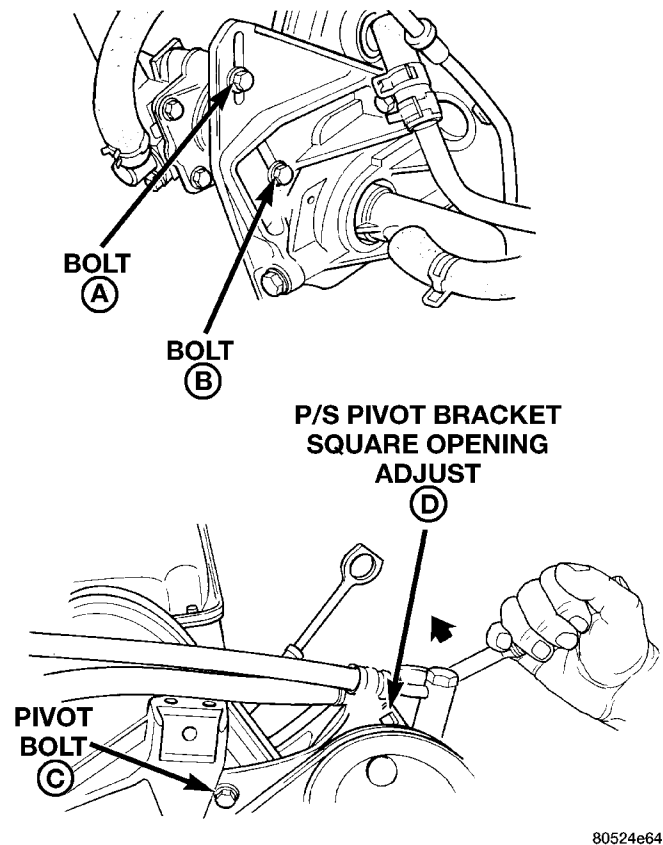

Fig. 26 Power Steering Pump Adjustment
- Loosen the power steering pump locking bolts A and B and pivot bolt C (Fig. 26) to remove and install belt and/or adjust belt tension.